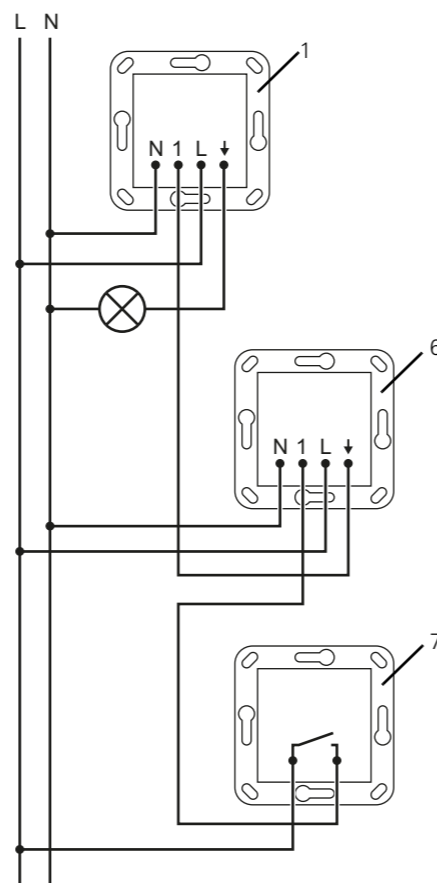

Figure 4: Connection diagram with auxiliary unit
To expand the range of detection, connect further Sensotec LEDs, see connection diagram (Figure 4). The main unit evaluates the motion signals from the auxiliary unit.
- Connect flush-mounted insert in accordance with connection diagram (Figure 4).